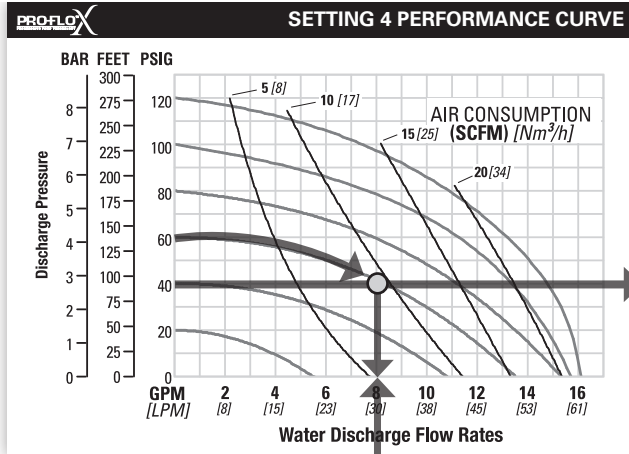

Figure 1
FIGURE 1 The air valve directs pressurized air to the back side of diaphragm A. The compressed air is applied directly to the liquid column separated by elastomeric diaphragms. The diaphragm acts as a separation membrane between the compressed air and liquid; a balanced load removes mechanical stress from the diaphragm. The compressed air moves the diaphragm away from the center of the pump. The opposite diaphragm is pulled in by the shaft connected to the pressurized diaphragm. Diaphragm B is on its suction stroke; air behind the diaphragm has been forced out to atmosphere through the exhaust port of the pump. The movement of diaphragm B toward the center of the pump creates a vacuum within chamber B. Atmospheric pressure forces fluid into the inlet manifold forcing the inlet valve ball off its seat. Liquid is free to move past the inlet valve ball and fill the liquid chamber (see shaded area).
Step 1: Identifying performance at setting 4. Locate the curve that represents the flow rate of the pump with 4.1 bar (60 psig) air inlet pressure. Mark the point where this curve crosses the horizontal line representing 2.8 bar (40 psig) discharge pressure (Figure 1). After locating your performance point on the flow curve, draw a vertical line downward until reaching the bottom scale on the chart. Identify the flow rate (in this case, 8.2 gpm). Observe location of performance point relative to air consumption curves and approximate air consumption value (in this case, 9.8 scfm).